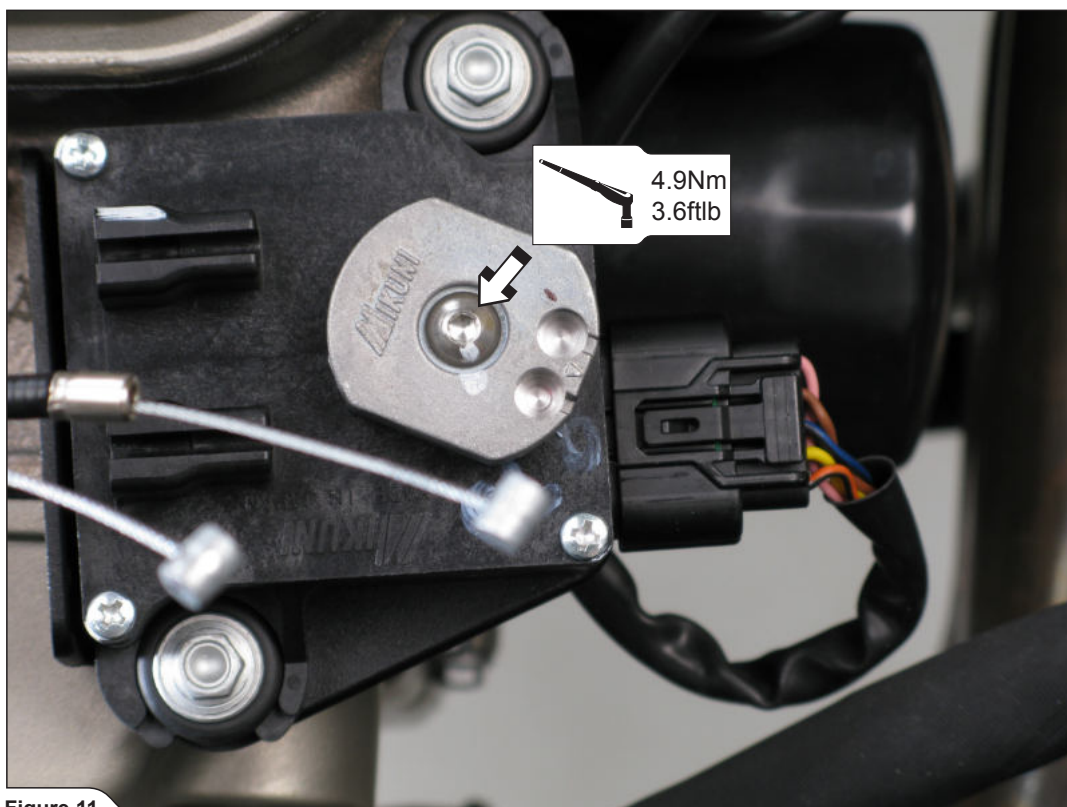

Figure 11
6. Reattach the servo motor wheel and tighten the bolt (Figure 11).